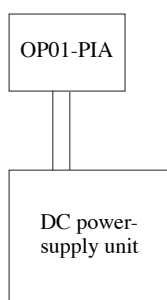

Fig. 3-17 OVP calibration
2. As shown in Fig. 3-17, free the output terminal.